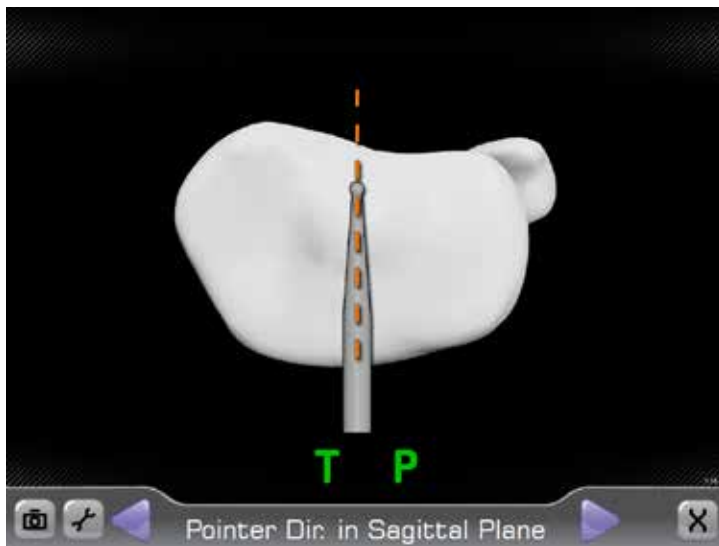

Figure 36
The Pointer Dir. in Sagittal Plane screen is displayed (Figure 36). Position the tip of the ProbeTracker (P) at the posterior center (PCL insertion) and the shaft of the ProbeTracker (P) on the proximal tibia along a line connecting the center of the tibia and the medial-third of the tibia tubercle. Press the Forward button to register this orientation. The system will automatically advance to the next screen.